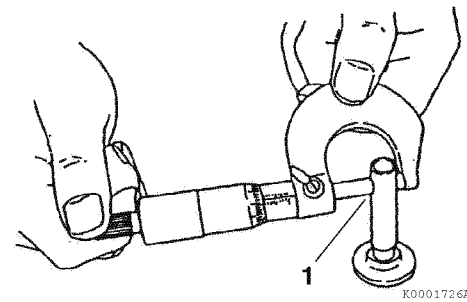

Figure 6-72
2. Measure the outside diameter of the tappet stem (1, **Figure 6-72**). See *Tappet* on page 6-9 for the service limit.